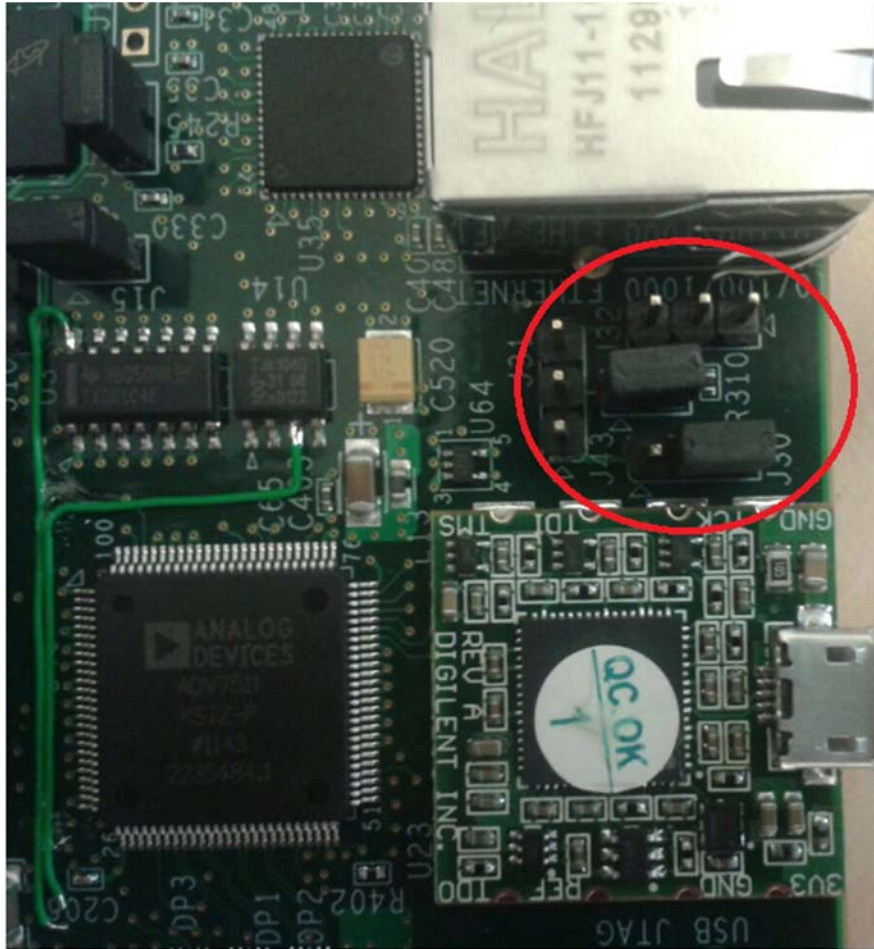

Figure 5-2: Change Jumpers J30 and J43
4. Change Ethernet Jumper J30 and J43 as shown in Figure 5-2.